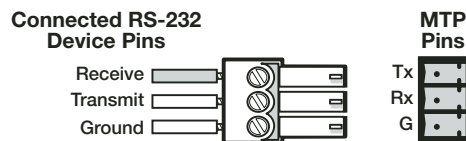

Figure 5. RS-232 Connector Wiring
- For component video, use the R (R-Y) and R return pins (pins 1 and 6), G (Y) and G return pins (pins 2 and 7), and B (B-Y) and B return pins (pins 3 and 8). For S-video, use the R, R return (C-chroma), G, and G return (Y-luma) pins.
- ③ **Monitor connector** — Connect a video monitor to this 15-pin HD connector for buffered, high resolution video loop-through.
- ④ **RS-232 connector** — Connect a serial communications port to this 3.5 mm, 3-pole captive screw connector for bidirectional RS-232 communication. Wire the connector as shown in figure 5.
- ④ **Output video connector** — Connect a projector or other high resolution video device to this 15-pin HD connector.
- ⑤ **RS-232 connector** — Connect a serial communications port to this 3.5 mm, 3-pole captive screw connector for bidirectional RS-232 communication. Wire the connector as shown in figure 5 on page 8.